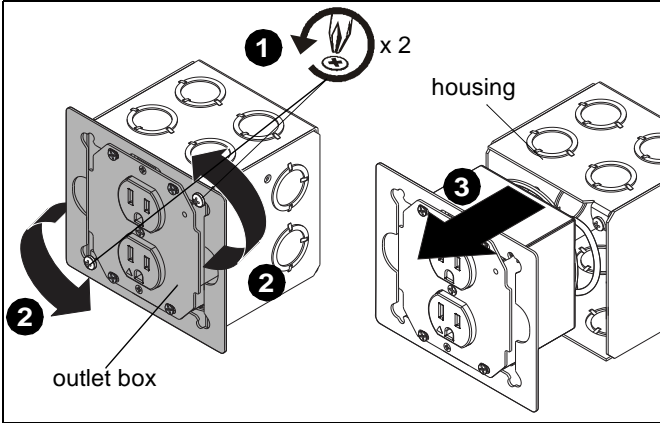

Figure 2
1. Loosen two Phillips head screws holding EGX-SF2 outlet box to outer housing. (See Figure 2)
2. Rotate outlet box counter-clockwise until it is free to be removed from housing. (See Figure 2)
3. Remove outlet box from housing. (See Figure 2)